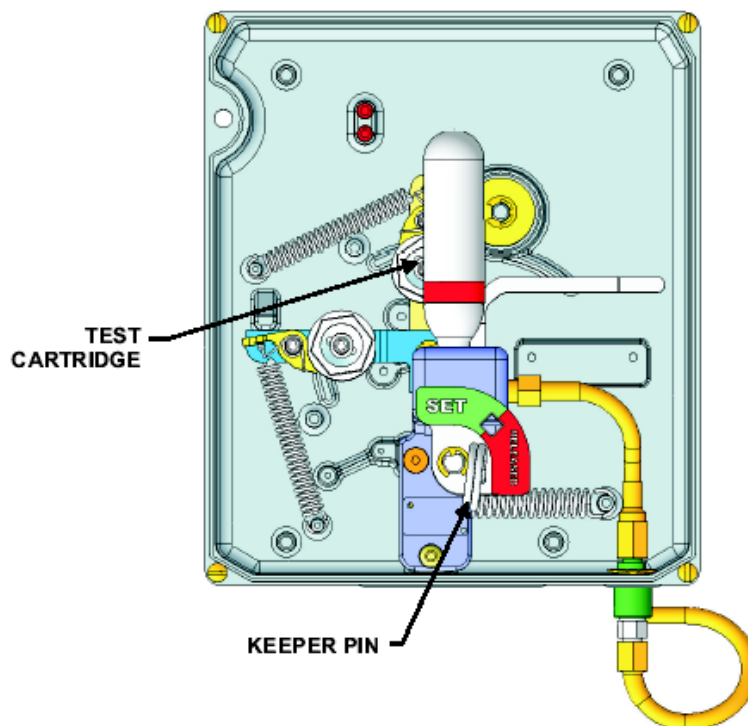

Figure 4-76. XV Control System, Test Cartridge Placement
1. After ensuring that the system is in the 'Set' position and the Keeper Pin is in place, locate the Test Cartridge (P/N 87-120044-001). Carefully install the cartridge into the valve assembly of the XV Control System. Tighten until cartridge is snug (see Figure 4-76). It is permissible to perform this test with the System Cartridge.